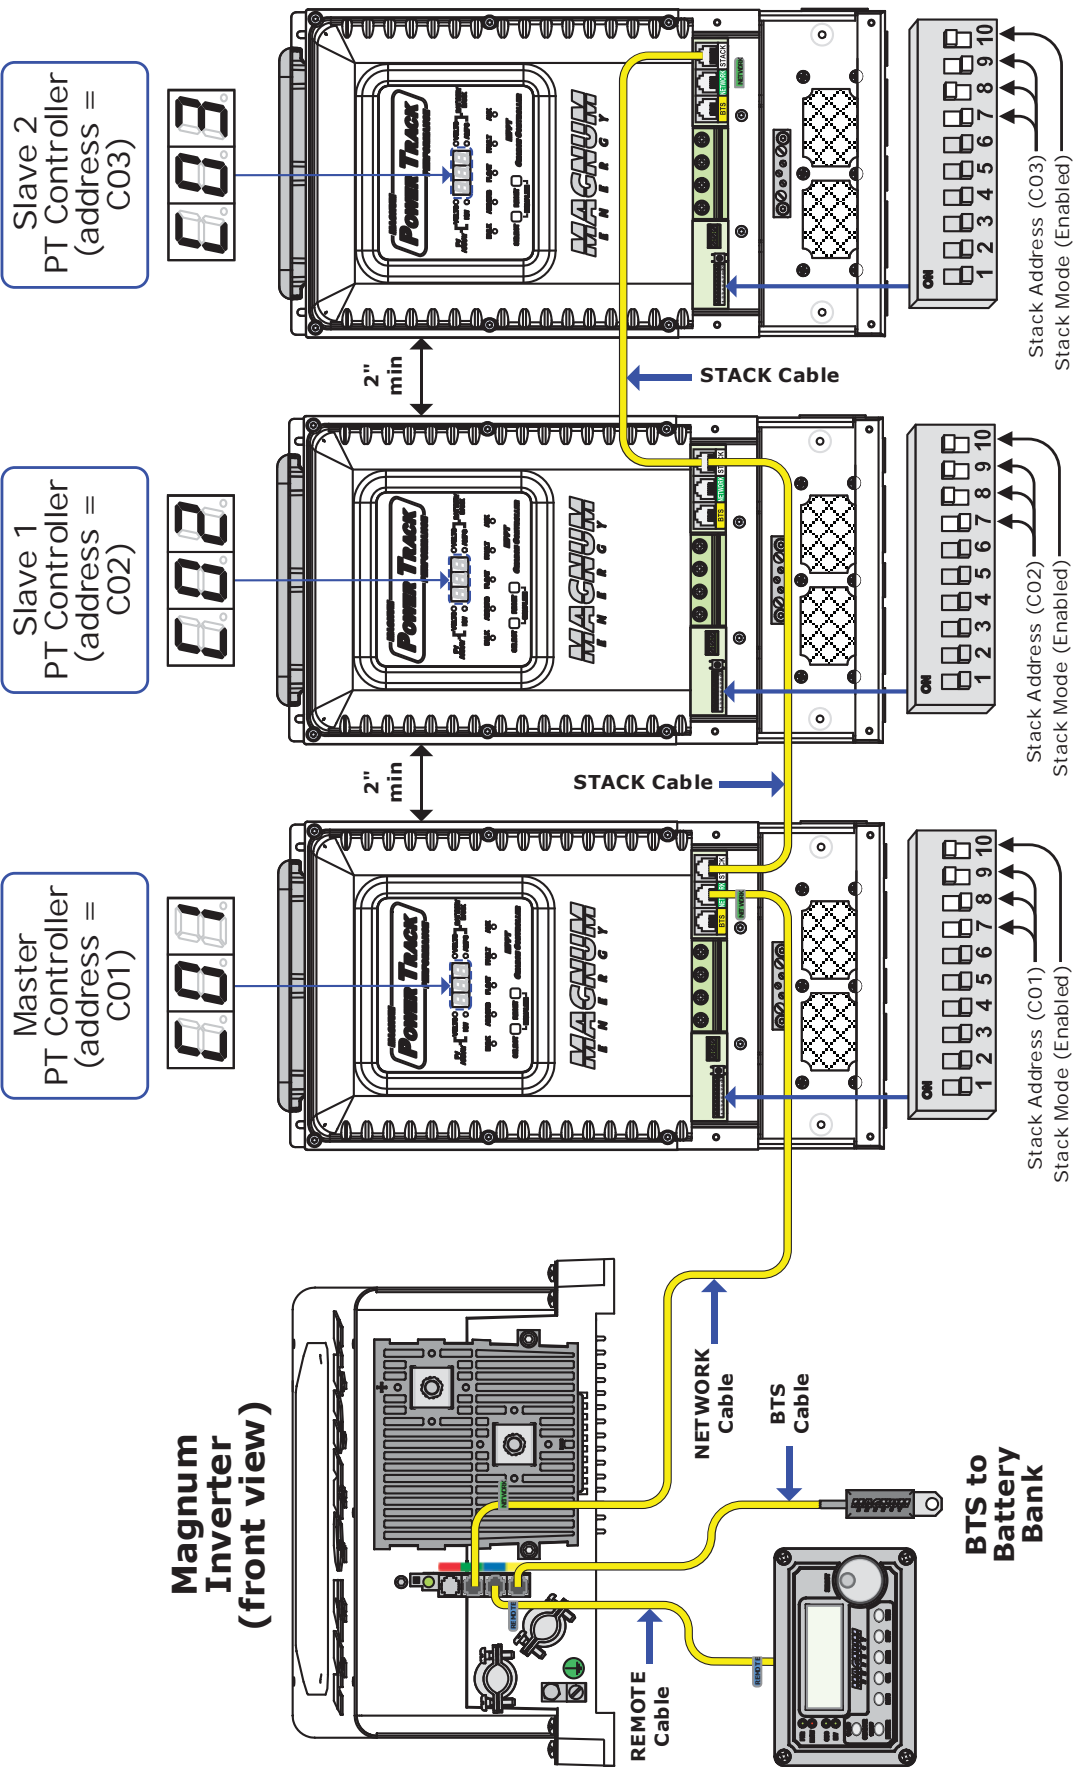

Figure 2-28, Networking Multiple PT Controller's
Figure 2-23 shows a 'STACK' cable. It allows multiple controllers to be connected together. This cable is 6' (1.83m), with a male RJ45 8P8C (8-position/8-conductor) connector on each end. It comes with 300-volt rated, yellow insulation. One end of this cable is connected to one of the STACK ports in one controller, and the other end is routed to another controller and connected to one of the STACK ports inside that controller's wiring area. See Figures 2-28 and 29.
3. Each controller must be connected to each other using a Stacking cable - connected in a daisy chain style as shown in Figures 2-28 or 2-29.
6. One controller (only one controller) in the stacked configuration must be connected to the network port on a Magnum inverter, which must also be networked to a Magnum remote (e.g., ME-ARC or ME-ARTR) - see Figures 2-28 or 2-29 and Table 2-10.
Note: *If using a ME-ARTR, do not connect any PT-100’s directly to the ME-ARTR (see Figure 2-28).*
7. DIP switch 10 must be enabled (UP) on each stacked controller (see Figures 2-28 or 2-29).
8. Each PT controller must have it’s own unique network address number (from C01 to C07). Use DIP switches 7, 8, and 9 to set the network address number on each controller [refer to Figures 2-28 or 2-29 and Section 3.1 (Switches 7, 8 & 9)].